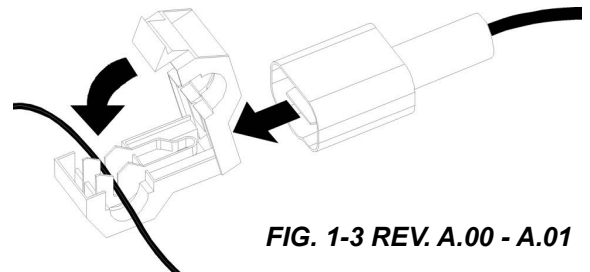

FIG. 1-3 REV. A.00 - A.01
- b. Crimp the supplied yellow T-tap terminal around the wire. **See Fig. 1-3.**
- c. Place the supplied rubber tube over the wire connection, fold and secure with the two wire ties supplied. **See Fig. 1-3.**